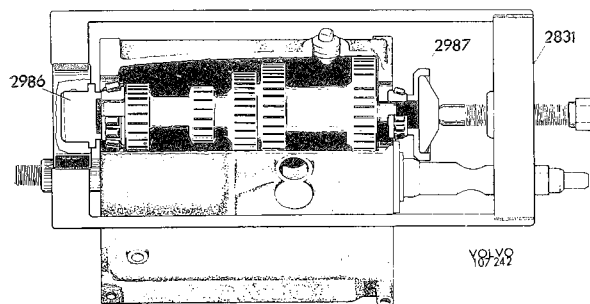

Fig. 4-27. Front inner ring installation
6. Turn the transmission upside down. Press the front bearing inner ring onto the intermediate shaft with 2831, 2986 and 2987, see Fig. 4-27. Drive in the outer rings until they are about 3 mm (0.12") above the face.